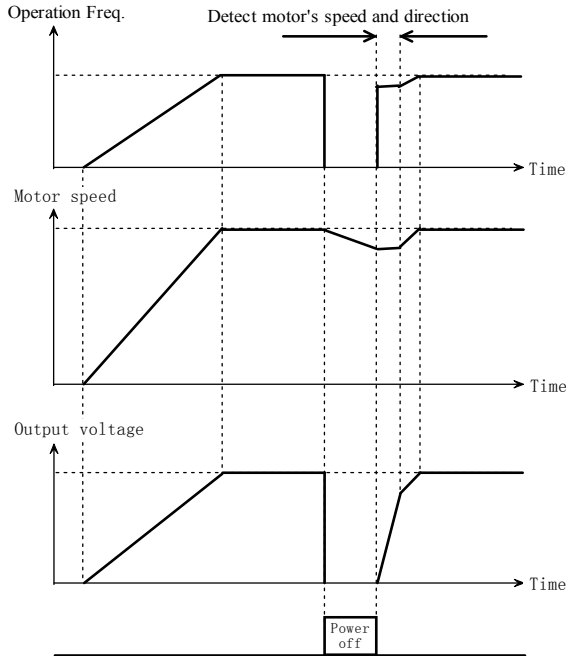

Fig. 5-1-2 Rotating speed tracking restart
- ◆ Rotating speed tracking: Detect the motor's running speed, and then start at the detected speed, running to the setting frequency according to the Acc/Dec time, realize smooth start of motor, as shown in Fig. 5-1-2. This mode is suitable for the motor with big inertial load.